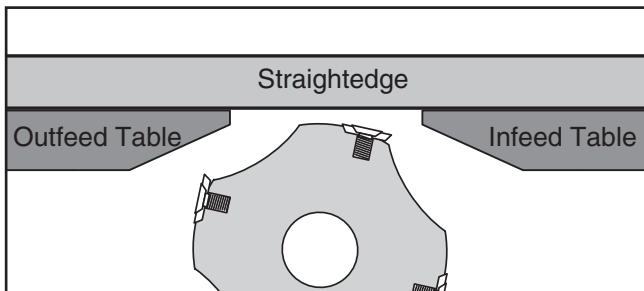

Figure 37. Infeed and outfeed tables set evenly.
4. Place the straightedge halfway across the infeed table and halfway over the outfeed table, and adjust the infeed table even with the outfeed table, as shown in **Figure 37**.
7. Place the straightedge halfway across the infeed table and halfway over the outfeed table, then adjust the infeed table even with the outfeed table, as shown in **Figure 37**.